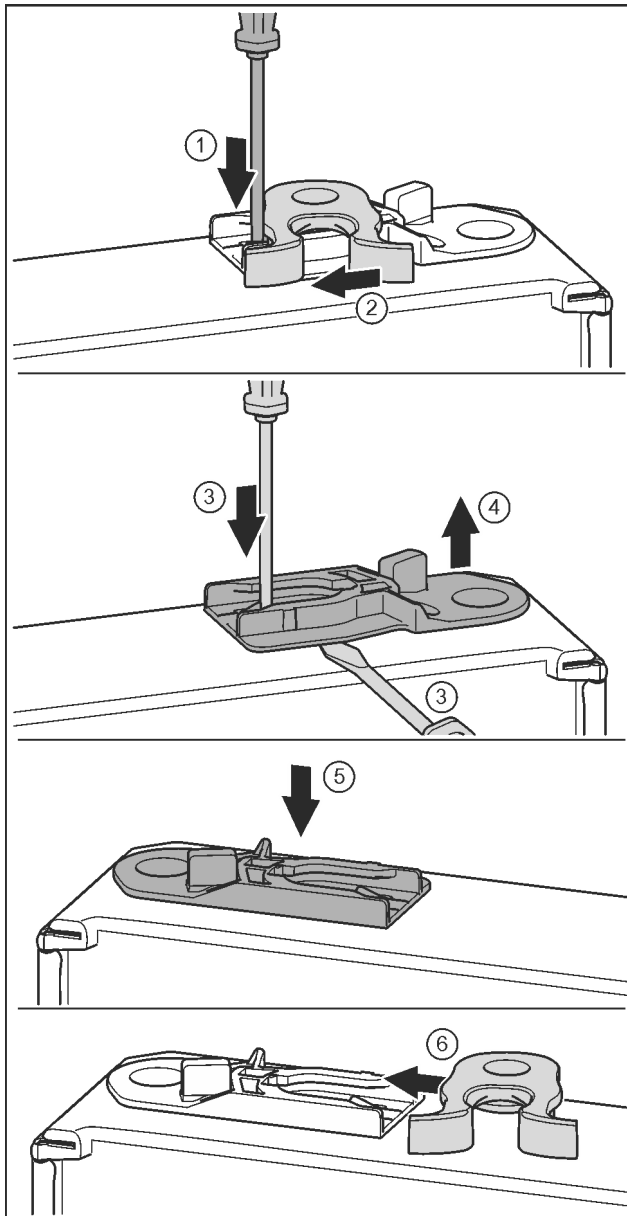

Fig. 19
- Push the tab downwards with a slotted screwdriver. Fig. 19 (1)
- Pull the door latch out of the guide. Fig. 19 (2)
- Pull out the guide bush: Press the tab with a slotted screwdriver and, at the same time, insert the slotted screwdriver under the guide bush. Fig. 19 (3, 4)
- Slide the guide bush included in the scope of supply to the other side of the housing. Fig. 19 (5)
- Push the door latch into the guide. Fig. 19 (6)